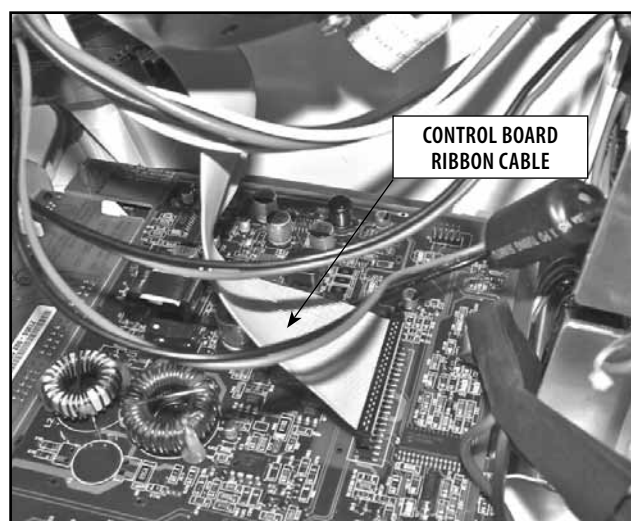

FIGURE 6.23
5. Raise the System Top and disconnect the Control Board Ribbon Cable from the Stim Board or Ultrasound Board on Combination Systems. See Figure 6.23.